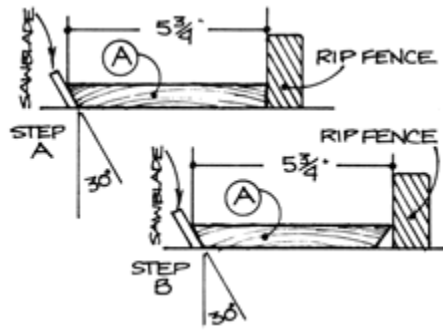

Figure 1. Saw Blade and Rip Fence Settings
1. Set the sawblade at a 30-degree angle and locate the rip fence as shown in **Figure 1**.